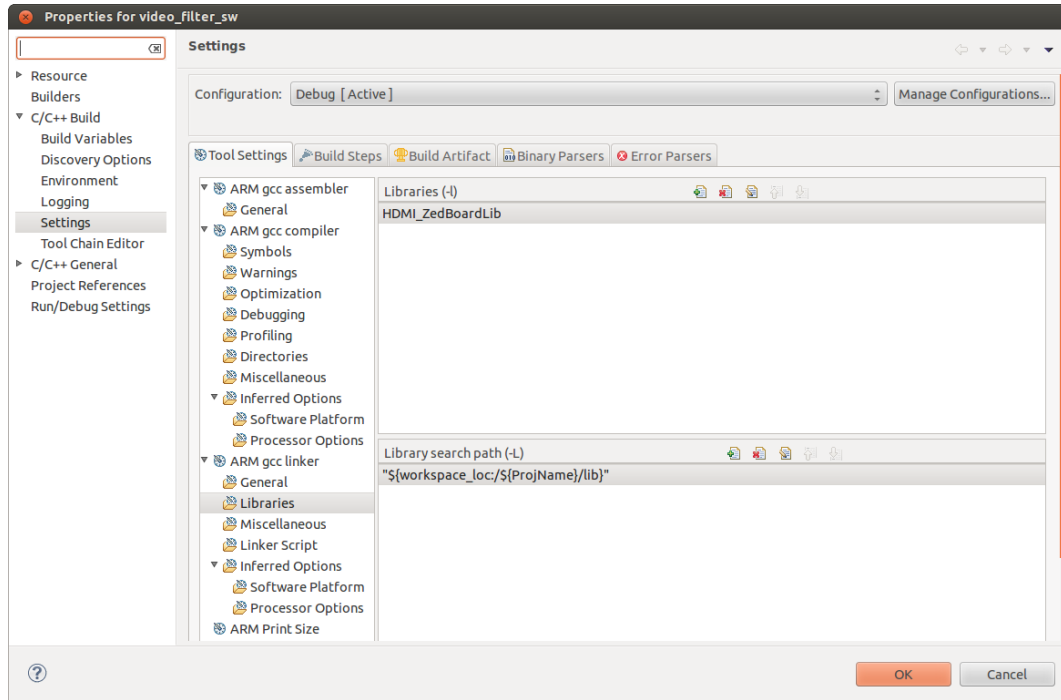

Figure 1.11.: Library settings for the project.
- On *Properties* window, select *Libraries* under *ARM gcc linker*. On *Libraries (-l)* panel, click "+", set the value to "HDMI_ZedBoardLib" and click *OK*. In the *Library search path (-L)* panel, click "+". On *Add directory path* dialog, click *Workspace...*, select *lib* under *video_filter_sw* and click *OK*. Click *OK* on *Add directory path dialog* (Figure 1.11). Then, click *OK* to accept the project settings.